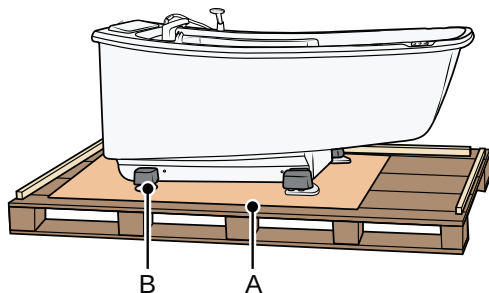

Figure 14
1. Remove side ribs (A) on the side where the pivot foot (B) is and where the bathtub is to slide off the pallet. See Figure 14.